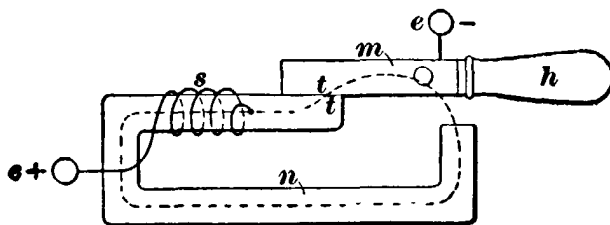

FIG. 18.
13. Fig. 18 illustrates the principle on which the blow-out coil works. m and n are two pieces of iron; m has a handle h and is movable around a center; n is stationary and has wound upon it a coil of wire that carries the main-motor current; one end of this coil is attached to n and the other end of the coil goes to one of